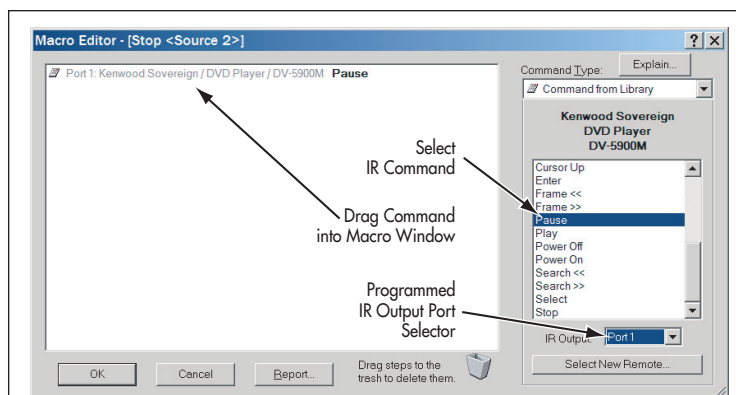

Figure 48:
6. Select the desired command in the list and drag it to the screen's large MACRO window. (In this example, the PAUSE command — see Figure 48).